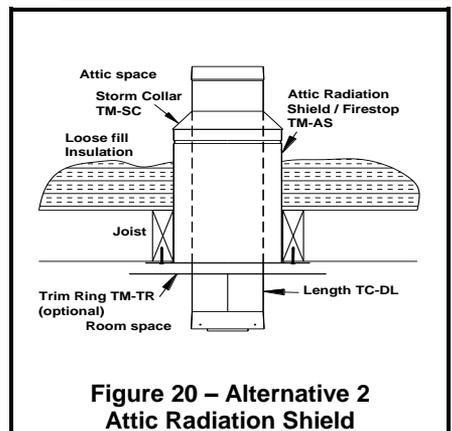

Figure 20 - Alternative 2 Attic Radiation Shield
Attic Radiation Shield / Firestop (AS) installed from below the ceiling if no support is required as shown in Figure 20. A Storm Collar (SC) must be added to prevent loose fill insulation from falling in the space between the direct vent and the shield.